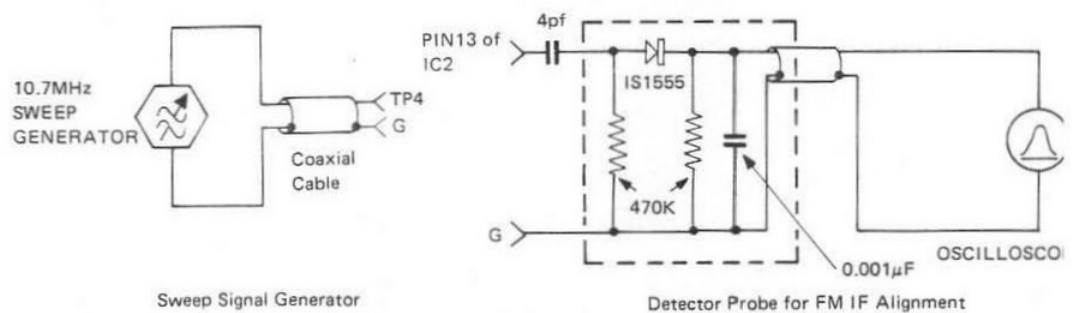

Figure 2.
1. Connect the test equipment to the RS 660 as shown in Figure 2, FM IF Alignment Test Set.